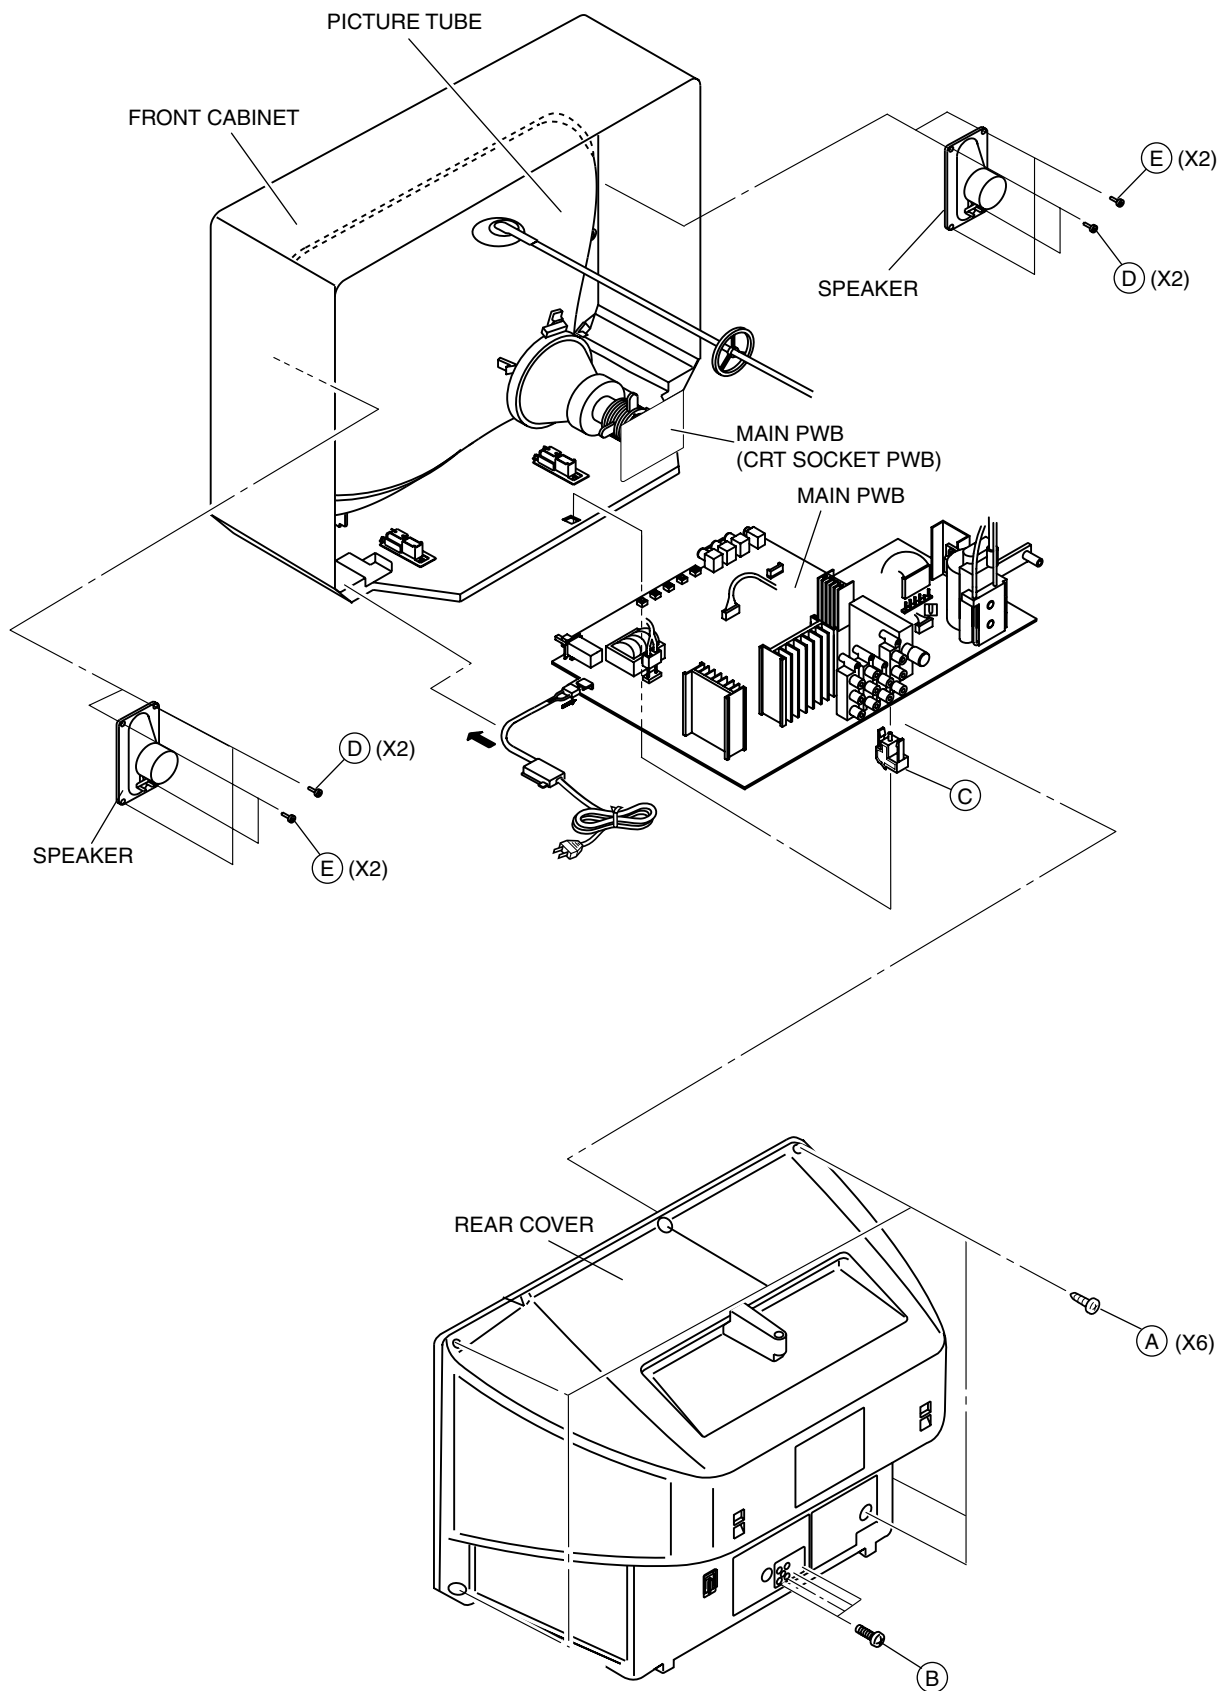

Fig.1
1. Remove the 2 screws marked (D) as shown in Fig.1.
2. Remove the 7 screws marked (A) and 4 screws marked (B) as shown in Fig.1.